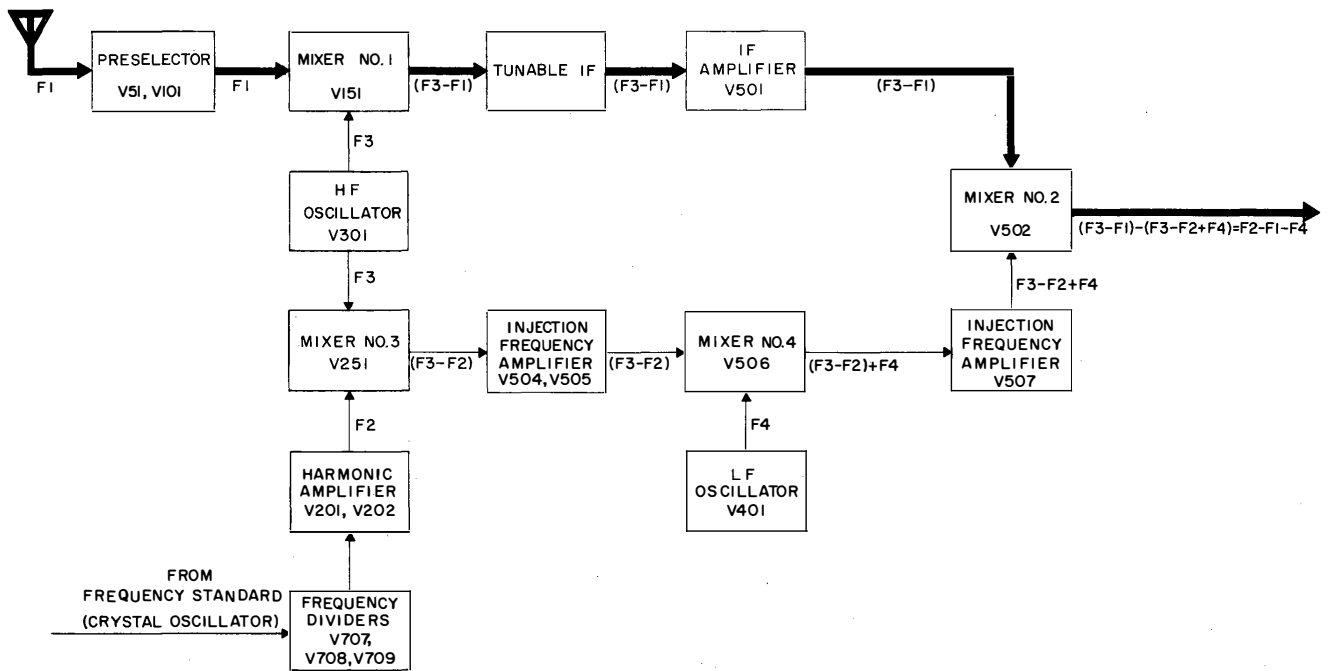

Figure 4-54. High Frequency Oscillator Drift Cancellation, Block Diagram
b. HIGH-FREQUENCY OSCILLATOR. (See figure 4-54.)—Initial frequency conversion takes place in mixer stage V151 by the combining of signals from the pre-selector (F1) and HF oscillator V301 (F3) to produce a difference frequency of  $F3 - F1$ . This signal is passed through the tunable IF section and IF amplifier stage V501 to mixer stage V502 for a second conversion. Without drift compensation, the latter mixer stage would ordinarily receive another signal from a second local oscillator to establish the desired second conversion frequency. This procedure, while effecting the desired conversion, in no way compensates for variations in the frequencies of the local oscillators involved, the result being corresponding variations in the difference frequency of the converted signals. To counteract this effect, the output of HF oscillator V301 (F3), besides combining with the incoming signal (F1) in mixer stage V151, mixes with a second signal originating in a crystal-controlled oscillator. This second signal is modified by frequency dividers, harmonic generator, and harmonic amplifiers to bring it to the proper frequency
Figure 4-54 indicates symbolically the frequency differences relative to signal inputs to the various mixer stages. By means of the loop arrangement, of which the HF oscillator (V301) is a part, any variation in its frequency output is transmitted equally and in the same sense to the two legs of the loop. Therefore, the difference frequency produced in common mixer stage V502 (by mixing of the signals from the legs of the loop) does not contain HF oscillator component F3. Elimination of F3 from the output of V502 is equivalent to nullification of the effect of drift that could be caused by the presence of this signal.